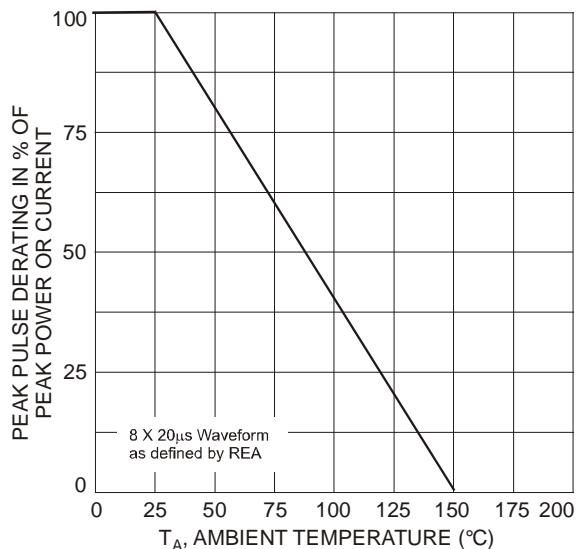
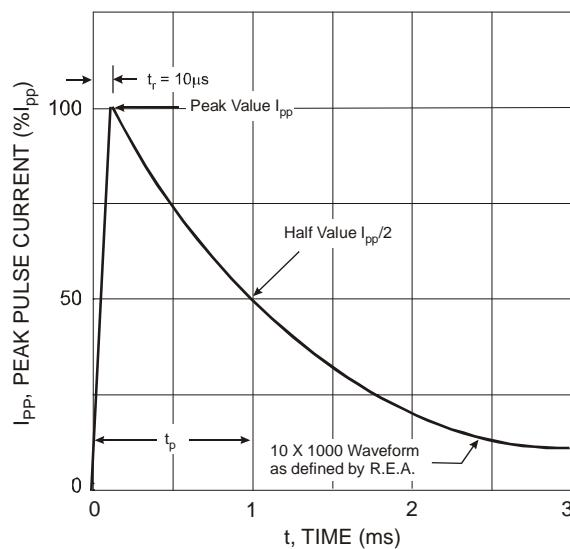
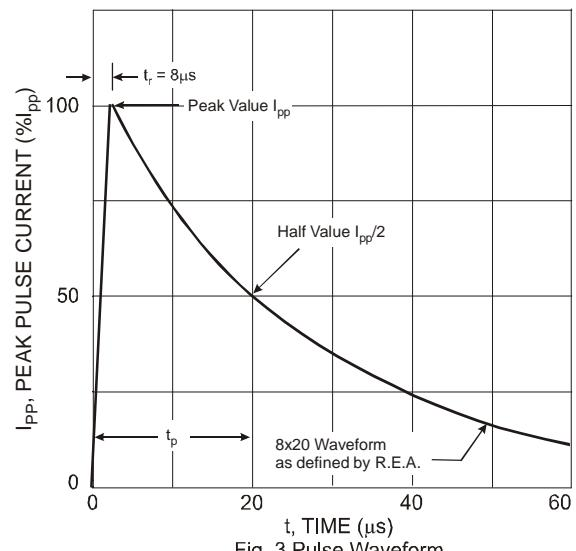

Fig. 1 Pulse Derating Curve
Fig. 2 Pulse Waveform
Fig. 3 Pulse Waveform
Notes: 5. Non-Repetitive current pulse as shown in figure 2 and derated above $T_A = +25^\circ\text{C}$ as per figure 1.
6. Non-Repetitive current pulse as shown in figure 3 and derated above $T_A = +25^\circ\text{C}$ as per figure 1.